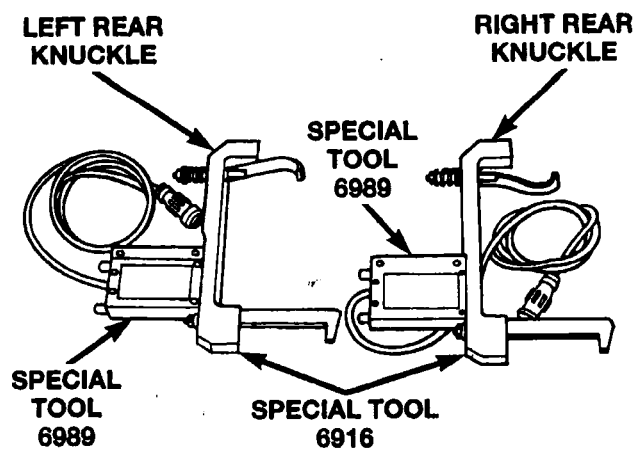

Figure 19
- 6. Mount the inclinometers to the rear Caster Angle Fixtures (Special Tool #6916) (Figure 19).